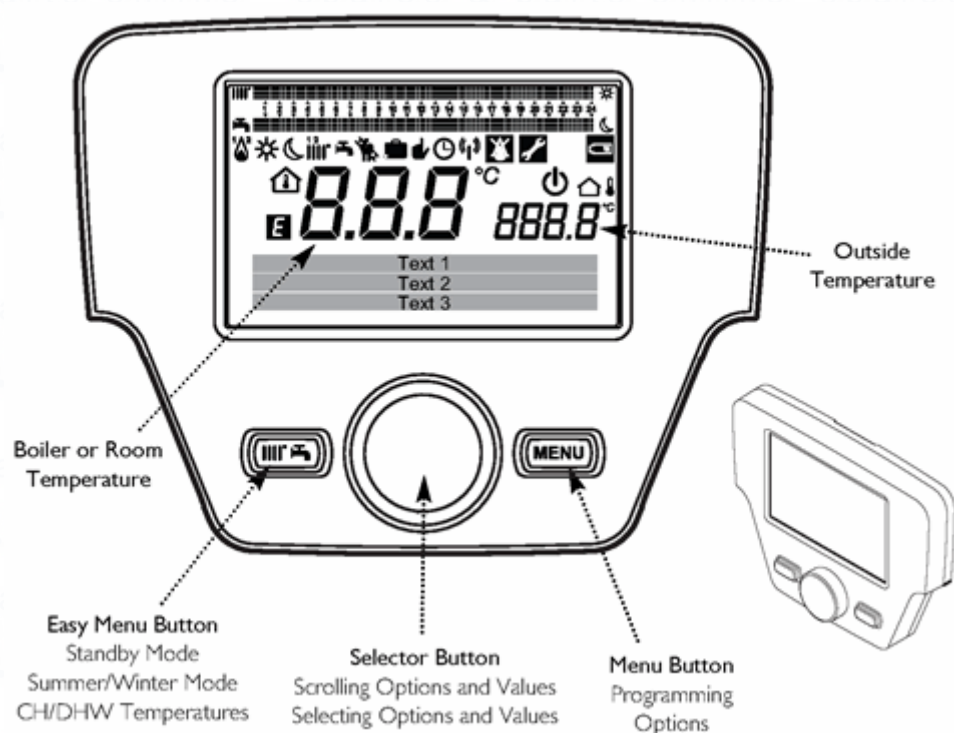

Fig. 42
3. Press the menu button repeatedly until the standard screen is available. The Programmable Room Unit symbol should be shown on the screen if the THINK Controller has been configured correctly, see Fig. 42.
6. When correctly connected and once the 'Save sensor' procedure has been done (See Section 11.4), the outside temperature and icon will be display on the THINK Controller(See Section 10.12 and Fig 42).